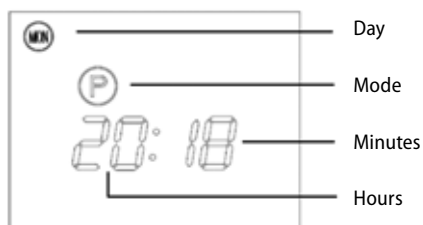

Fig. 1
1. Remove the holder from the body as shown in Figure 1.
Before you start using the appliance, turn on the switch located on the side of the appliance. Fig. 1 illustrates what the display will be showing, now the appliance is in standby mode and it does not heat. Display shows (P).
Press and hold the (WEEK) button to set the hours, press and hold the (MIN) button to set the minutes, press and hold the (SET) button to set the days, see Fig. 1.